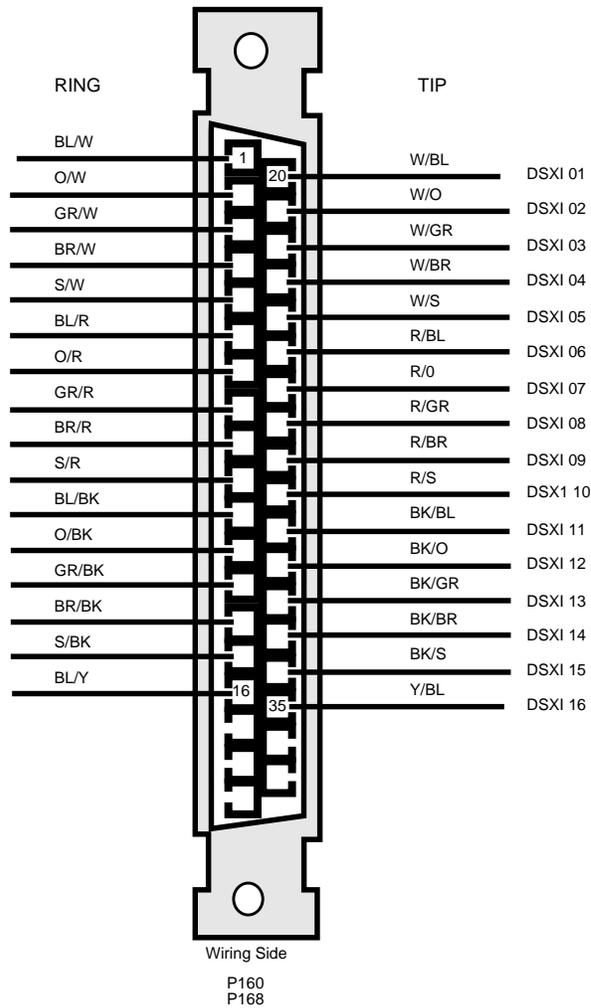

Figure 3-25. DS1 IN (1 - 16) Connections
- Step 2:* Terminate the receive pairs (DS1 IN) at the DSX and label the leads in accordance with Figures 3-25 and 3-26.